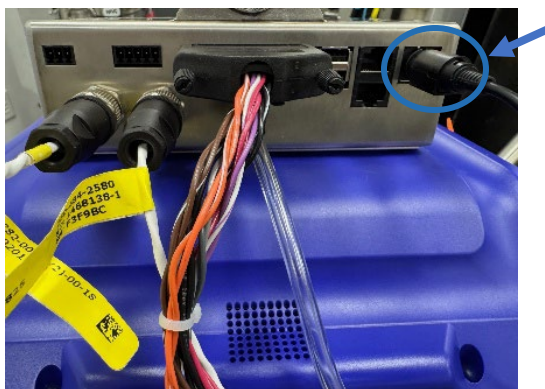

Figure 7. DC Power Connection (far right) to CryoVerse Connect
1. Connect the DC power cable DIN connector to the CryoVerse Connect as shown in Figure 7.